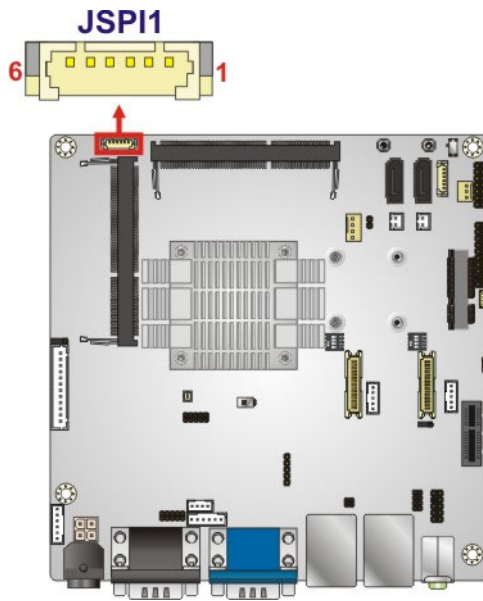

Figure 3-29: SPI Flash Connector Location
- CN Location:** See Figure 3-29